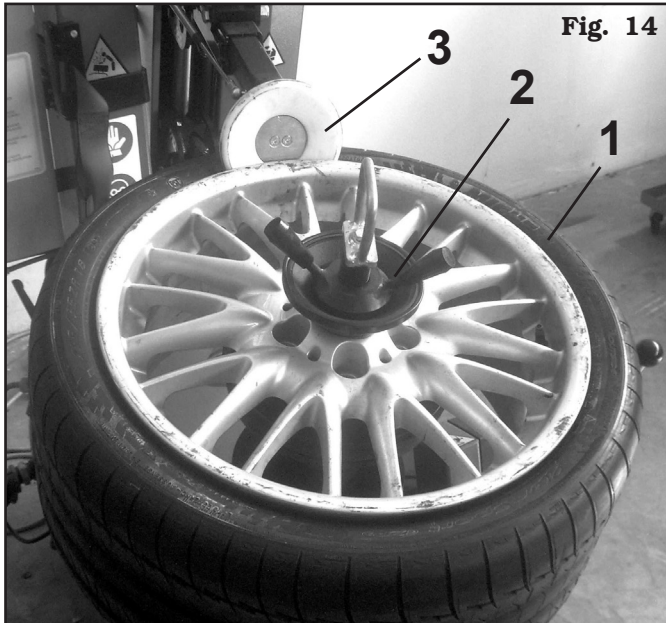

Fig. 14
1 - Place the wheel (**Fig. 14 ref. 1**) on the machine and lock the rim by using the the locking device (**Fig. 14 ref. 2**).
Carry out the bead breaking of tyre upper bead using roll (**Fig. 14 ref. 3**).